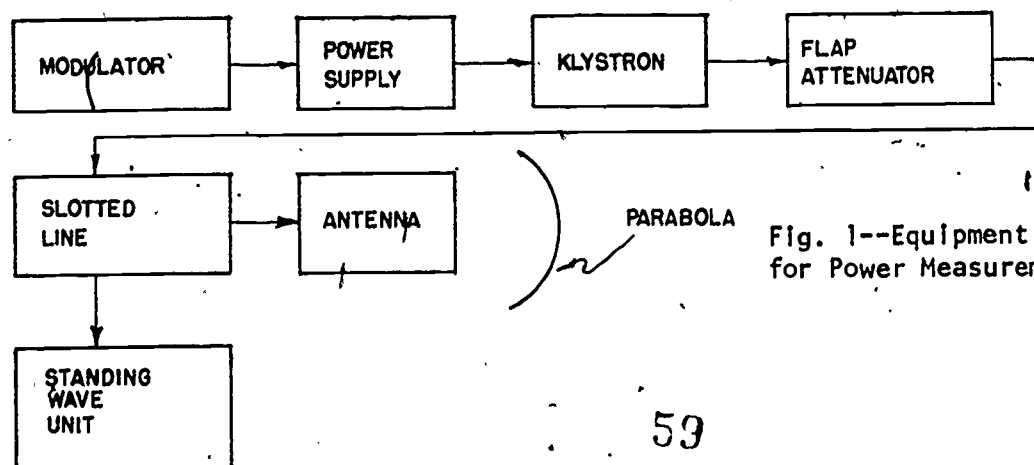

Fig. 1--Equipment Setup for Power Measurements
1. Connect trainer components as shown in Fig. 1.